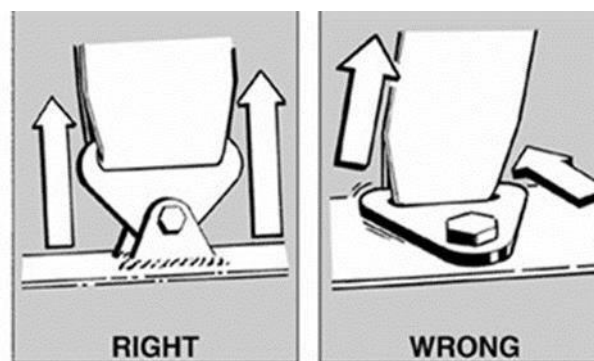

Figure B- 38: Driver Harness, Lap Belt Tab Orientation
- The frame lap belt tabs shall be no less than 2.3 mm thick and configured for double shear mounting. Frame lap belt tabs configured in bending are explicitly prohibited. See Figure B-38.